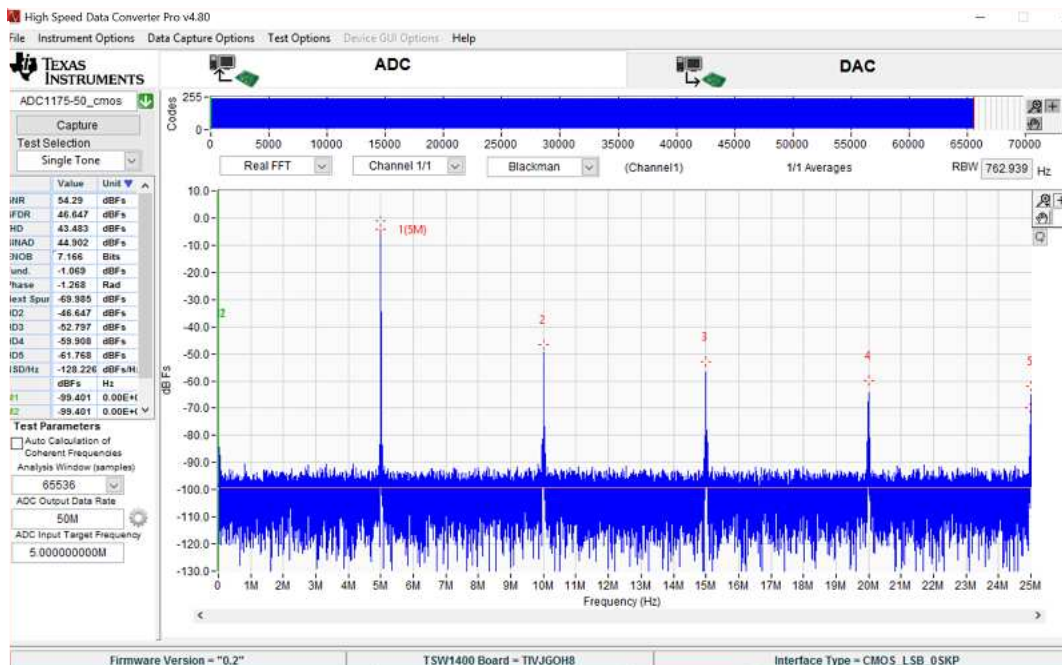

Figure 6. ADC1175-50 Data Capture Using the HSDC Pro GUI
5. Click the *Capture* button. The results of the captured data should look like that of Figure 6, and the performance should be similar to that of Table 3.